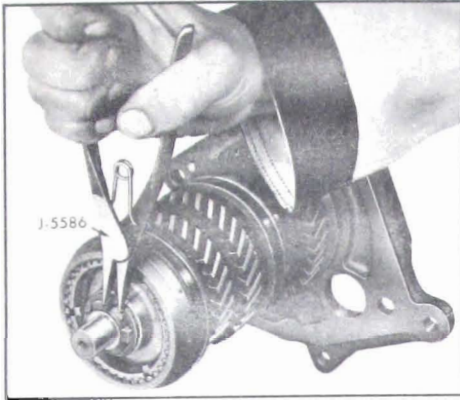

Figure 4-25—Removing Mainshaft Front Snap Ring
18. Remove mainshaft front snap ring (see Figure 4-25), and slide third and fourth speed clutch assembly, third speed gear and synchronizing ring, second and third speed gear thrust washer (needle roller bearing), second speed gear and second speed synchronizing ring from front of mainshaft.